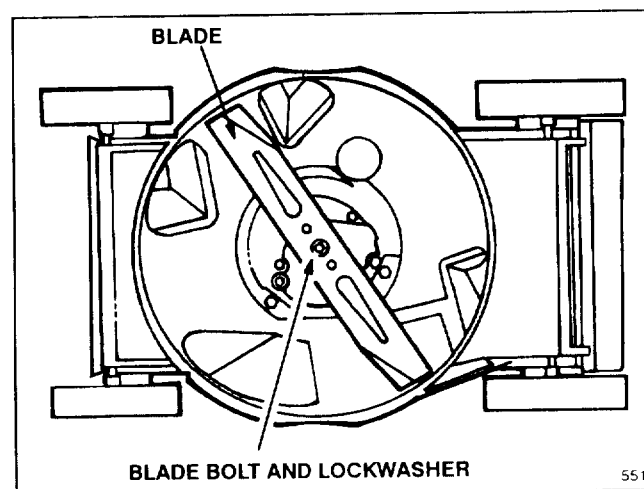

Figure 16
3. Tip mower on its right side (Fig. 16). Avoid rotating blade as starting problems may result.
5. **REMOVING BLADE**—Grasp end of blade using a rag or thickly padded glove. Remove blade bolt, lockwasher and blade (Fig. 16).